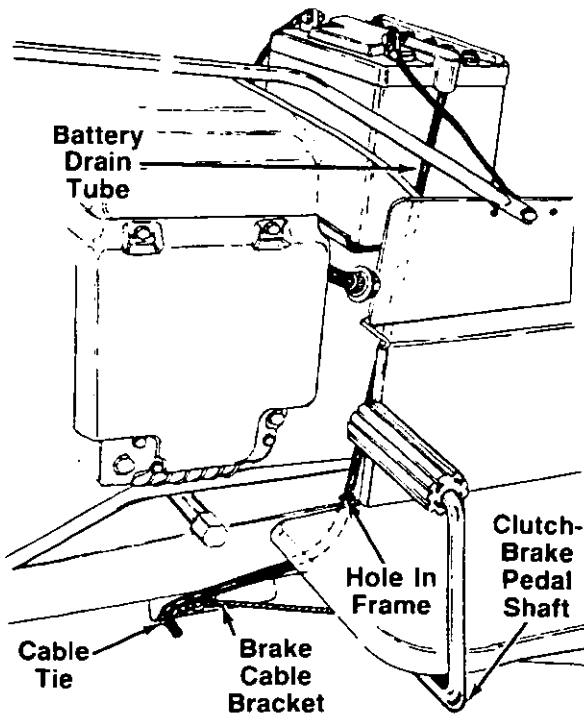

FIGURE 8.
6. Route the battery drain tube down through the hole in the frame, then forward to the brake cable bracket. See figure 8.
7. Secure drain tube to brake cable bracket with the cable tie as shown in figure 8. Trim excess end of cable tie.